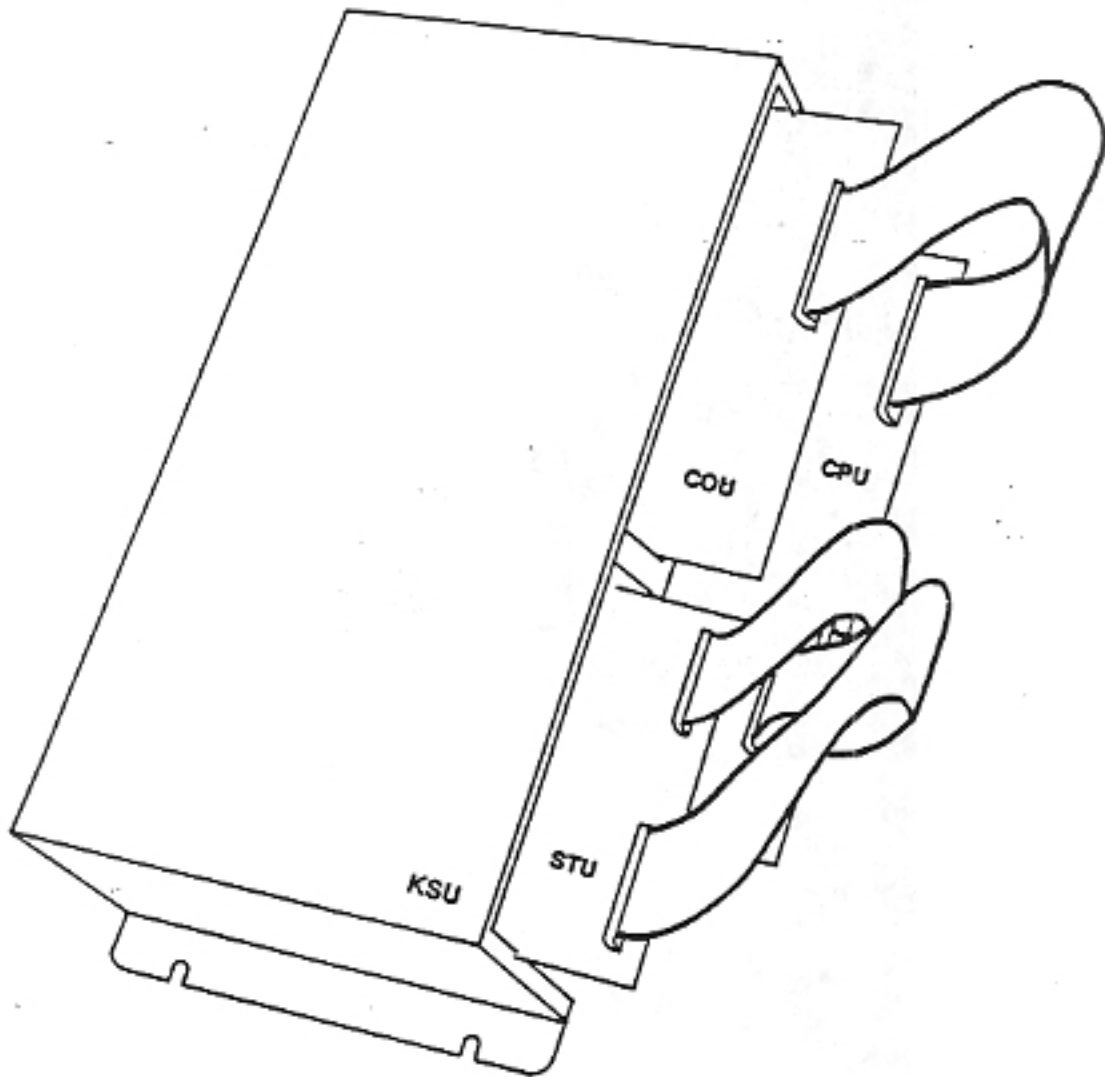

Figure 1-23 Circuit Card Positioning (KSU)
3. WHEN INSTALLING THE CIRCUIT CARDS, CHECK THAT THE CARDS ARE PROPERLY POSITIONED IN THE CARD FILE TRACKS. Ensure that all cables are properly connected before fully inserting the cards into the cabinet. Inserting a card that is not positioned correctly or connected correctly will damage the card. Refer to Figure 1-23 for proper card positioning.